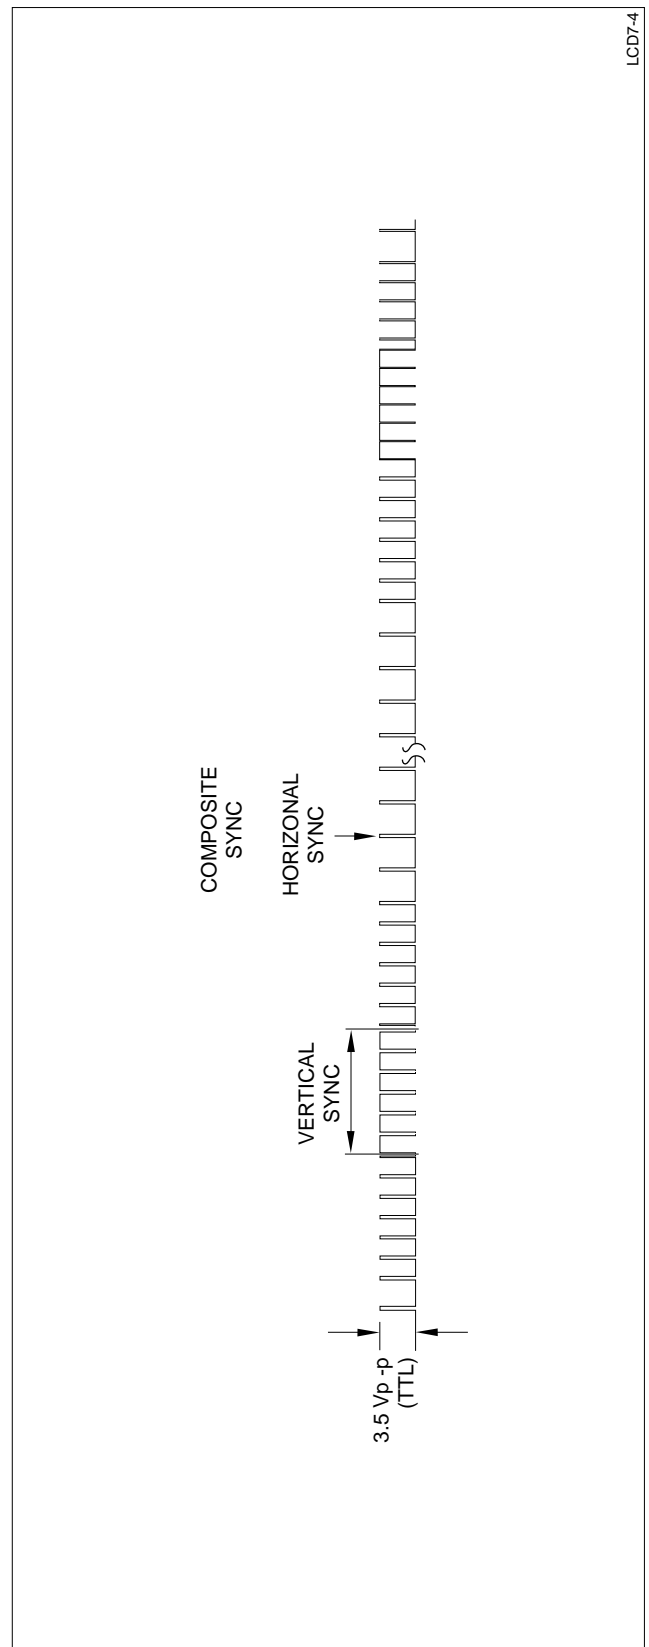

Fig. 4. Composite Sync
- Composite Sync - Horizontal and vertical sync are combined into one signal (Figure 4).